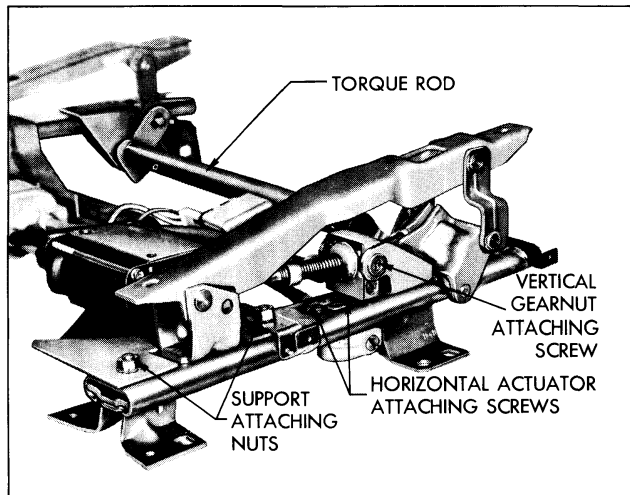
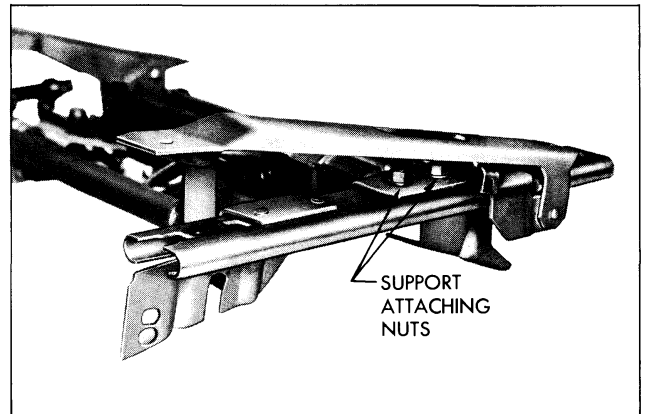

Fig. 22-4 Adjuster Mechanism
Fig. 22-5 Inboard Bucket Seat Adjuster
5. Remove nuts securing motor and transmission support to adjuster (See Fig. 22-4 for outboard adjuster and Fig. 22-5 for inboard adjuster).
2. Using a clutch type screwdriver or other suitable tool, remove shoulder screws securing linkage to vertical gearnut. (Fig. 22-4).
5. Remove screws securing horizontal actuator to adjuster lower track; then remove actuator from adjuster assembly. (Fig. 22-4).
3. Remove nuts securing motor and transmission support to inboard adjuster (Fig. 22-5).
(See Fig. 22-4 for outboard adjuster and Fig. 22-5 for inboard adjuster).